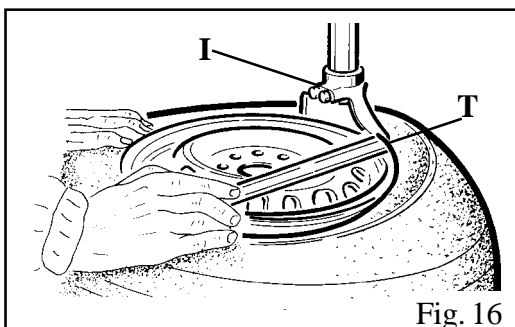

Fig. 16
- With the lever (T) inserted between the bead and the front section of the mounting head (I), move the tyre bead over the mounting head.
**Note:** In order to avoid damaging the inner tube, if there is one, it is advisable to carry out this operation with the valve about 10 cm. right of the mounting head. (Fig. 16)